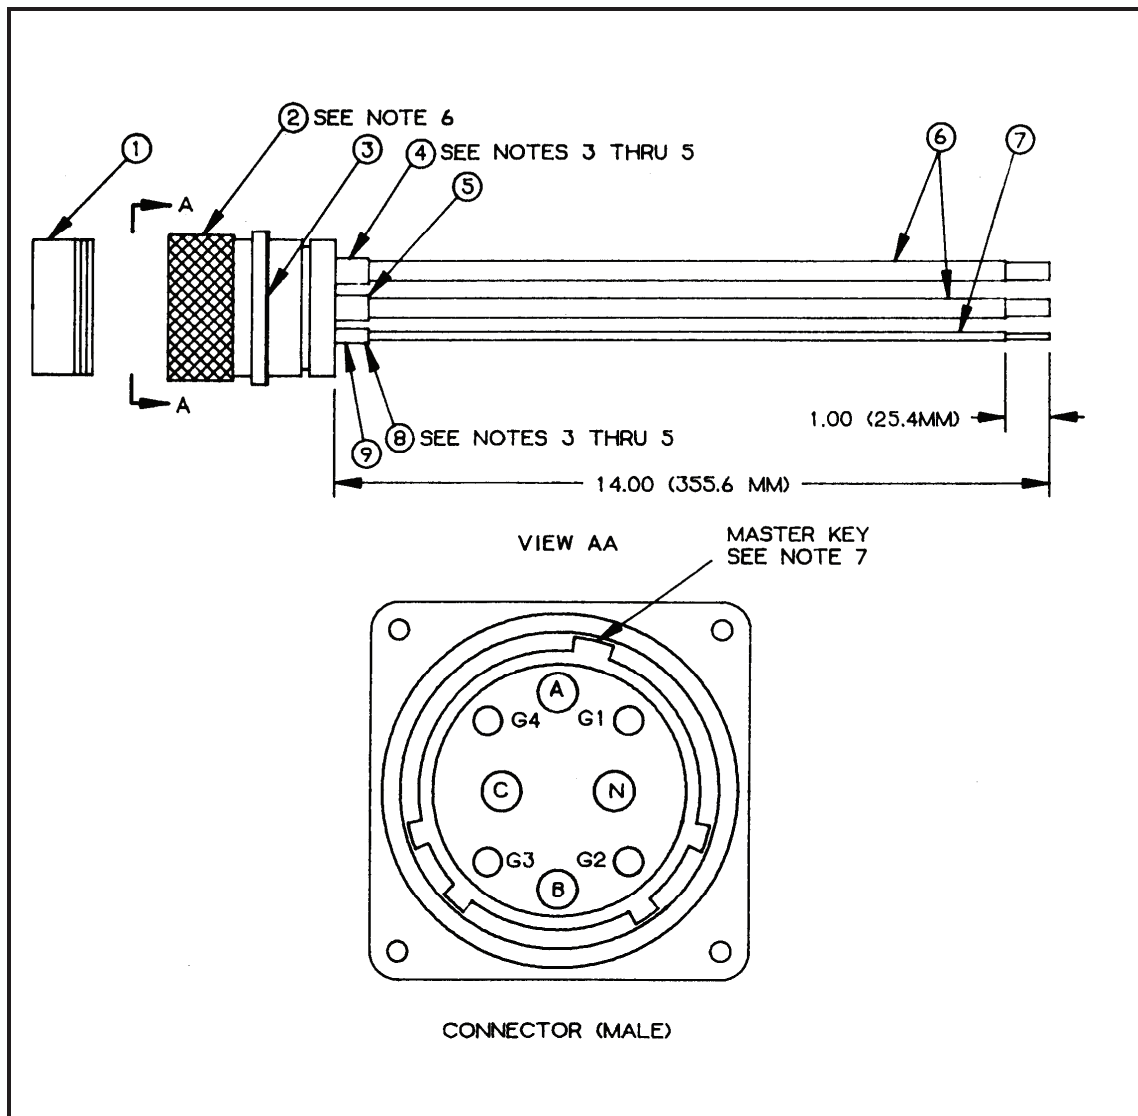

Figure F-6. Feeder Center Input Connector, 100-Amp (J1)
Component Legend for Figure F-6
- c. Electrical connector (Figure F-6, Item 2) is furnished with the following: